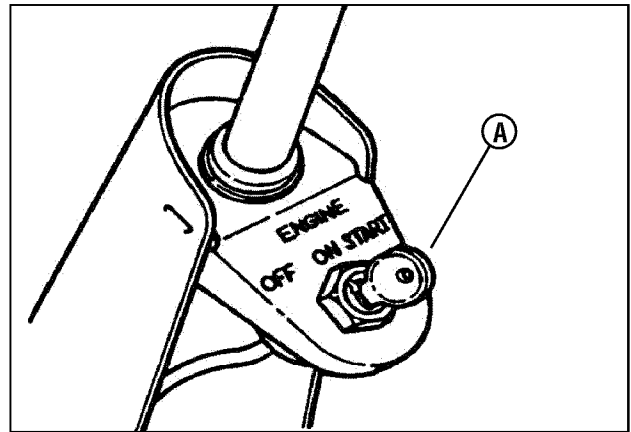

Figure 9: Key
- Turn the key (A, Figure 9) to the “ON” position.